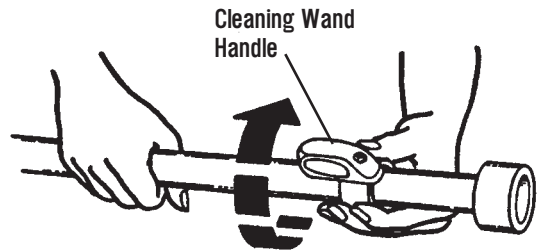

Figure 10b
5. Grasp the Wand Rim in one hand, and use your other hand to extend the Wand to its full length. (See Figure 10b.) Keep pulling it until it reaches the length you want. With the Hose and Cleaning Wand fully extended, there are 10 feet to work with.